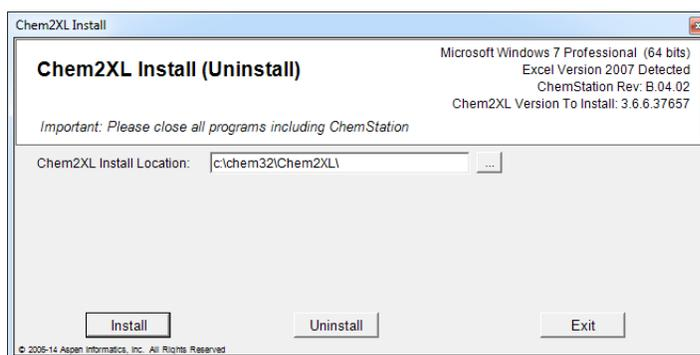

Figure 1.1 Chem2XL installation screen
3. Press the Install button to start installation. (see Figure 1.1)